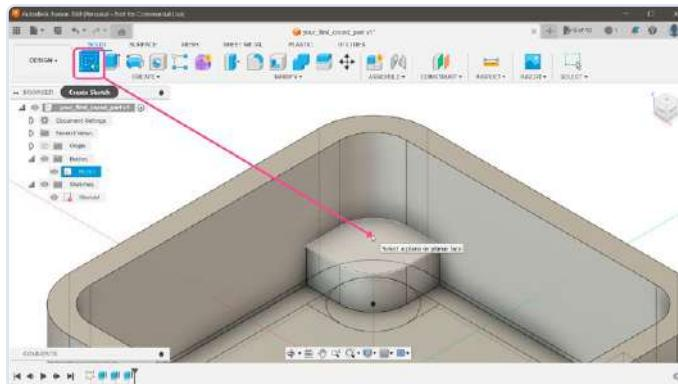

Figure 13: Setting up the hole in the support.
13) It would be nice if those supports included holes for screws. We already have the position of these holes (the center points of the circles), but they are in the different Z positions. The points are on the bottom of the enclosure, but we need those to be on top of the supports. To move those points, we will create a new sketch by selecting *Create Sketch* button, and, for the position of this sketch, click the top plane of one of the supports (**Figure 13**).